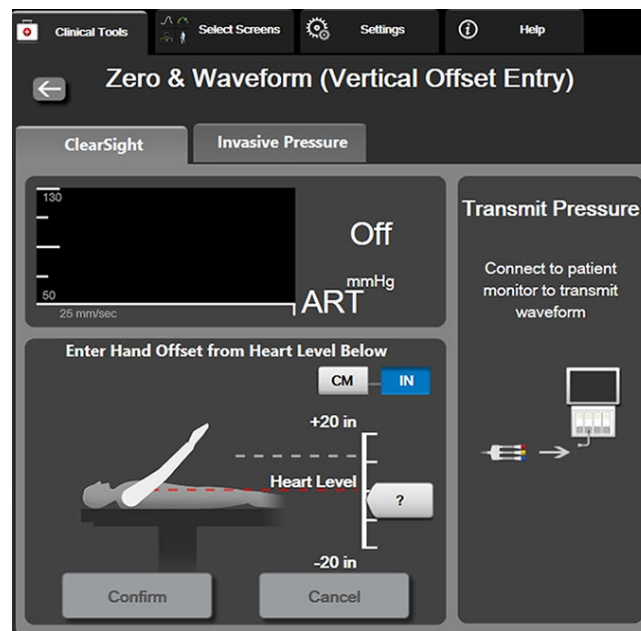

Figure 9-9: Zero & Waveform screen – Vertical Offset Entry
3. The **Zero & Waveform** screen in this mode (shown in Figure 9-9 on page 112) will depict a vertical scale bar to represent the offset of the hand relative to the heart; the heart level is set at zero. A positive offset signifies a patient position where the hand is above the heart. Select the units of the scale bar: **CM** or **IN**.